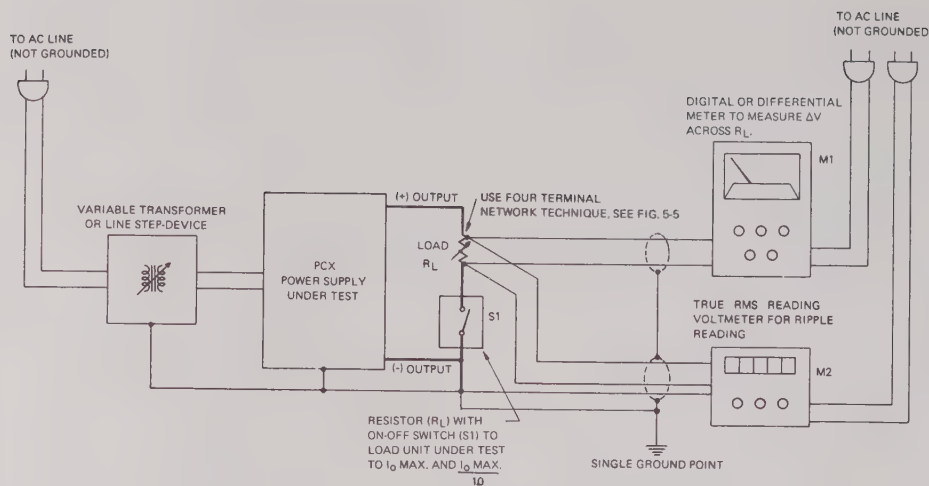

FIG. 5-3 TEST SETUP FOR VOLTAGE REGULATION MEASUREMENTS.
- c) MEASUREMENT OF OUTPUT EFFECT DUE TO AC INPUT SOURCE VARIATIONS. Set up test circuit as shown in FIG. 5-3. Measure output effect by varying the AC input source between the specified limits and noting the deviation (ΔE_O) on the meter across the output. The output effect due to AC input source variations is specified in percent of the maximum rated output voltage.
- d) **MEASUREMENT OF OUTPUT EFFECT DUE TO LOAD VARIATIONS.** Retain the test setup shown in FIG. 5-3. Set the AC input source to 115V AC. Measure output effect by opening and closing the load switch (S1) and noting the deviation ΔE_O on M1. The output effect due to load variations is specified in percent of the maximum rated output voltage:
- e) **RIPPLE MEASUREMENT.** Ripple is specified in absolute values (rms). Careful wire-dressing and shielding, as well as good AC grounding are of the utmost importance to get valid results. (Use single ground point as shown in FIG. 5-3.)